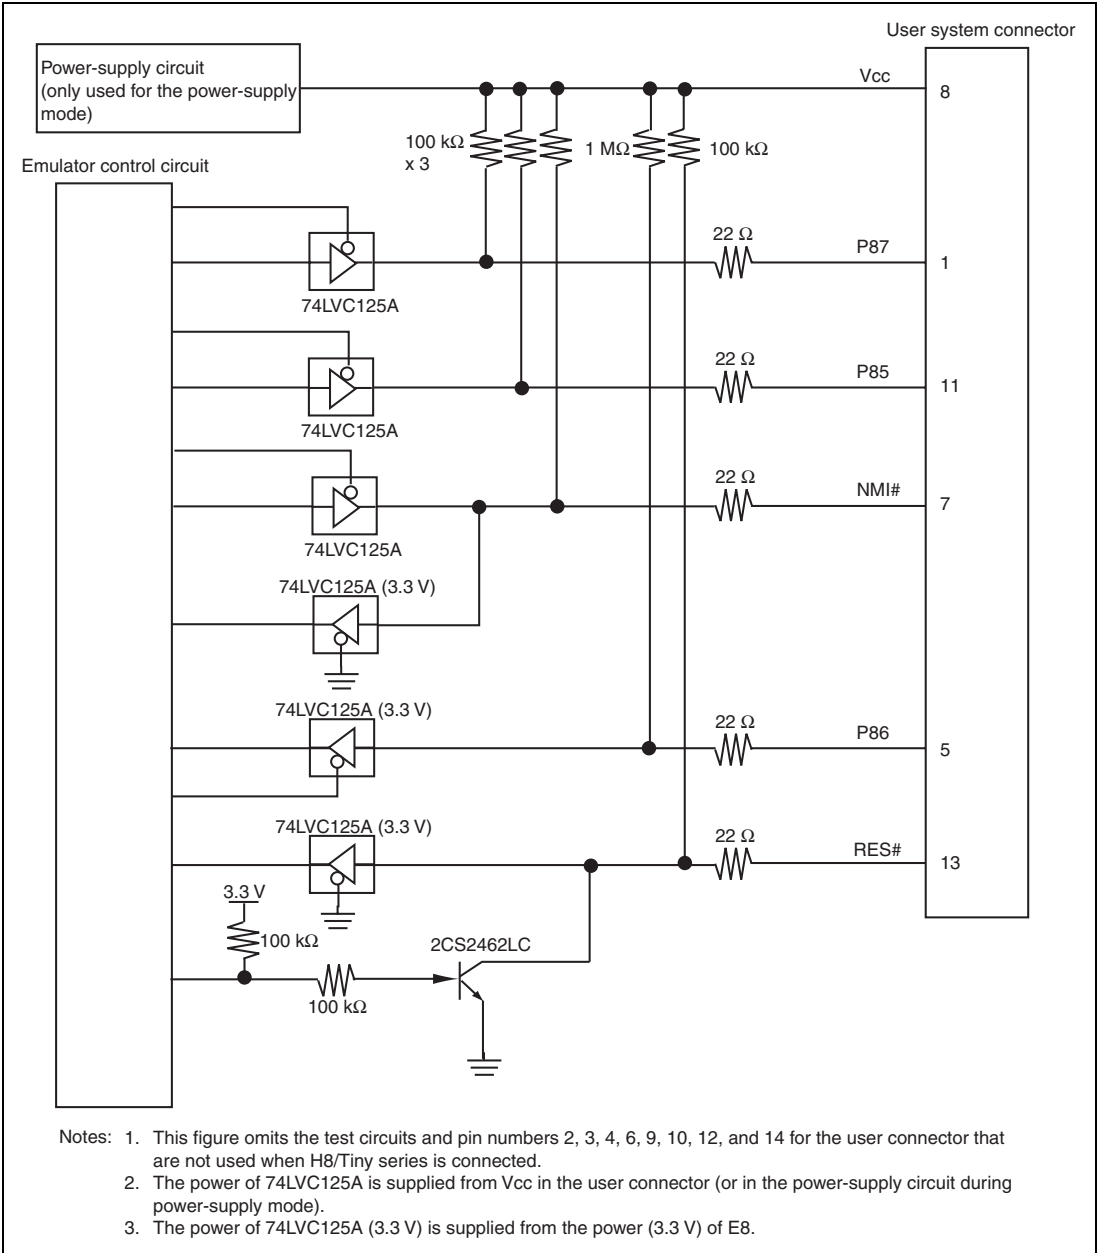

Figure 4.6 Interface Circuit in the E8 Emulator (Reference)
6. Figures 4.6 and 4.7 show the interface circuit in the E8 and E8a emulators, respectively. Use these figures as references when determining the pull-up resistance value.